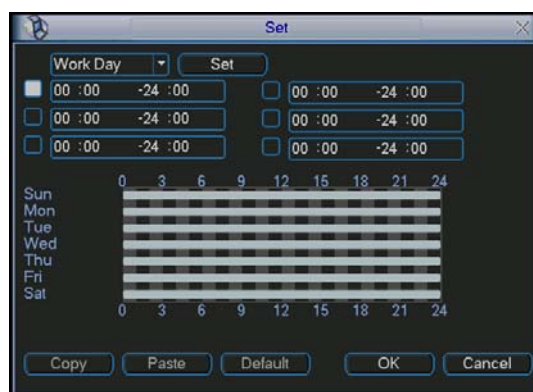
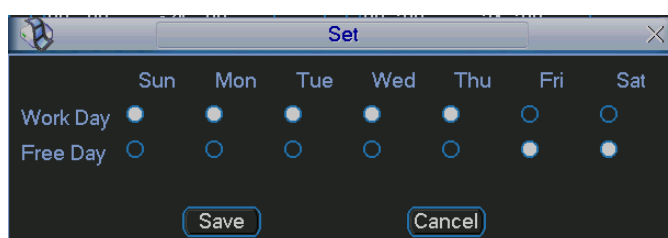

Figure 4-17
Figure 4-18
- Period: Click set button, you can see an interface is shown as in Figure 4-17. Here you can set for business day and non-business day. In Figure 4-17, click set
button, you can see an interface is shown as in Figure 4-18. Here you can set your own setup for business day and non-business day.
- Period: Click set button, you can see an interface is shown as in Figure 4-17. Here you can set for business day and non-business day. In Figure 4-17, click set button, you can see an interface is shown as in Figure 4-18. Here you can set your own setup for business day and non-business day.
- **Period:** Click set button, you can see an interface is shown as in Figure 4-17. Here you can set for business day and non-business day. In Figure 4-17, click set button, you can see an interface is shown as in Figure 4-18. Here you can set your own setup for business day and non-business day.